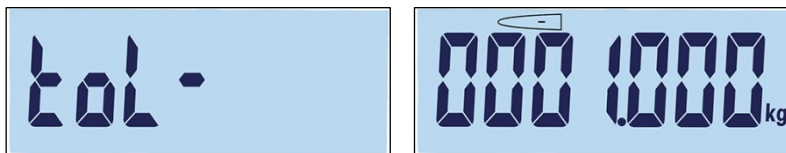

Figure 3-48: Negative Tolerance Label and Setting Screens
- Next, the negative tolerance (Tol -) screen appears, followed by the negative tolerance editing screen (Figure 3-48).